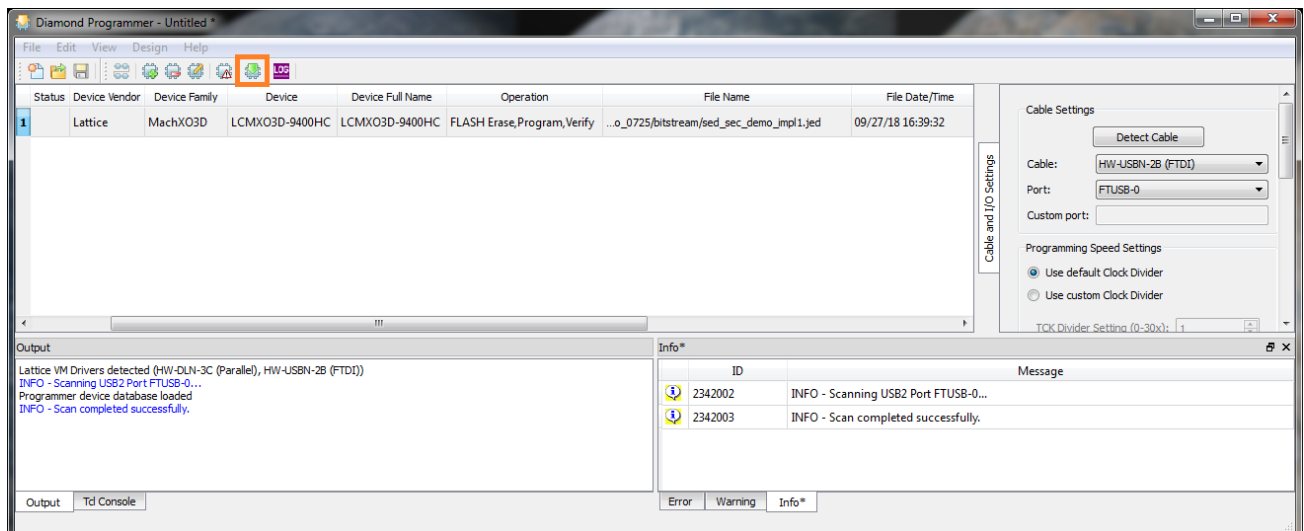

Figure 6.4. Start Programming Operation
8. Click the **Program** button on the toolbar (Figure 6.4) to start programming.